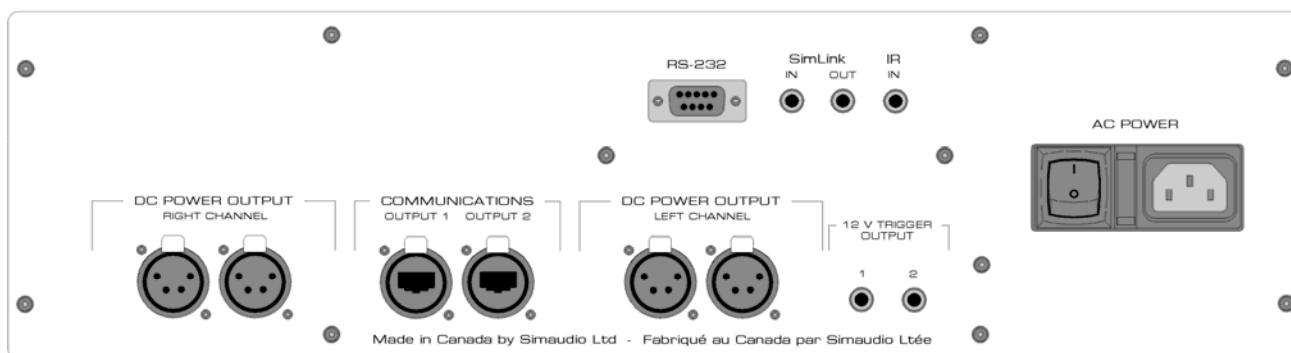

Figure 4: Rear panel of MOON P-8 Controller
The rear panel of the **MOON P-8** controller will look similar to Figure 4 (above). It is equipped with full-function bi-directional RS-232 port control and status for custom integration or automation. This is located in the upper-middle section and uses a DB9 connector. Immediately to the right of the RS-232 port are two (2) "SimLink" connectors labeled "in" and "out" on 1/8" mini jacks. Please refer to the next section entitled SimLink for more details. Your **MOON P-8** preamplifier has a 1/8" mini jack input for use with aftermarket infrared remote control receivers. The "IR in" connector is located on the upper right section of the rear panel. Across the lower section you will find the 3 pairs of output connectors that are used for powering the preamplifier chassis. To the right of these connectors are two 12 Volt trigger outputs, each on a 1/8" mini-jack. Finally, on the far right side are the "AC Fuse" socket cover; the power "main switch"; and the "AC Input" IEC receptacle for the power cord. All rear panel connectors have been chosen because they provide the best possible connections for your unit. A poor contact will degrade the signal substantially, and plugs and sockets should all look clean and free of dirt and corrosion. The easiest way to clean them is to remove the cables from their sockets and push them back in again. This procedure requires that your preamplifier and the rest of your components be completely turned off.
The **MOON P-8** Dual-Mono preamplifier uses the '**FRM-2**' full function, all aluminum remote control (figure 4). It operates on the Philips RC-5 communication protocol and is can be used with other MOON components such as the Andromeda, Eclipse, SuperNova and Equinox CD Players, P-3 Preamplifier, and both the i-5 and i-3 integrated amplifiers.